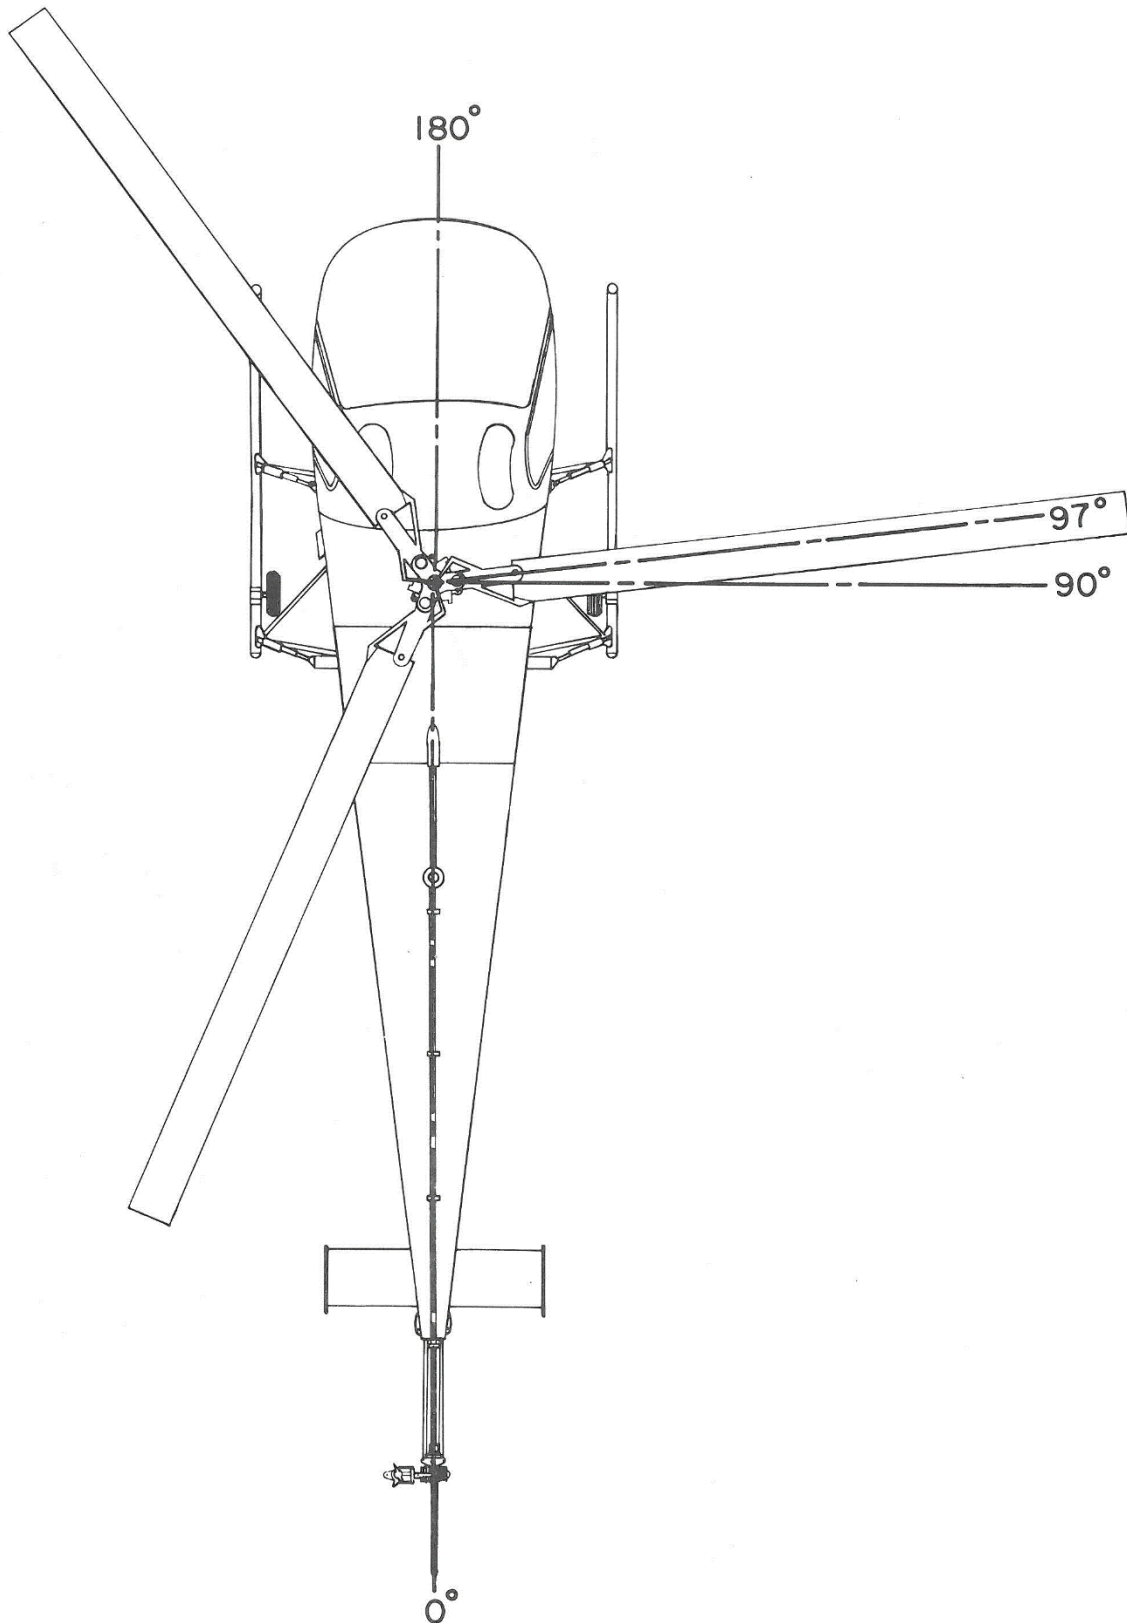

Figure 12-17. Main Rotor Azimuth Positions
- (2) Phase main rotor blades 120° apart. This is accomplished by moving each blade grip until one inch of the damper piston shaft is exposed on each damper.
- (3) Rotate the main rotor hub until #1 grip is at the 97° azimuth position (Figure 12-17).
- (8) Rotate #1 blade to the 97° azimuth position (Figure 12-17).
- (9) Set protractor at +19° and position it on top of the flat area of the blade grip. Adjust the collective up stop at the seat deck until the bubble is centered, giving +19 degrees \pm .5 degree. Secure the collective up-stop check nut.
- (10) Remove tool T-1775.
- (1) Rotate #1 blade to the 97° azimuth position (Figure 12-17).